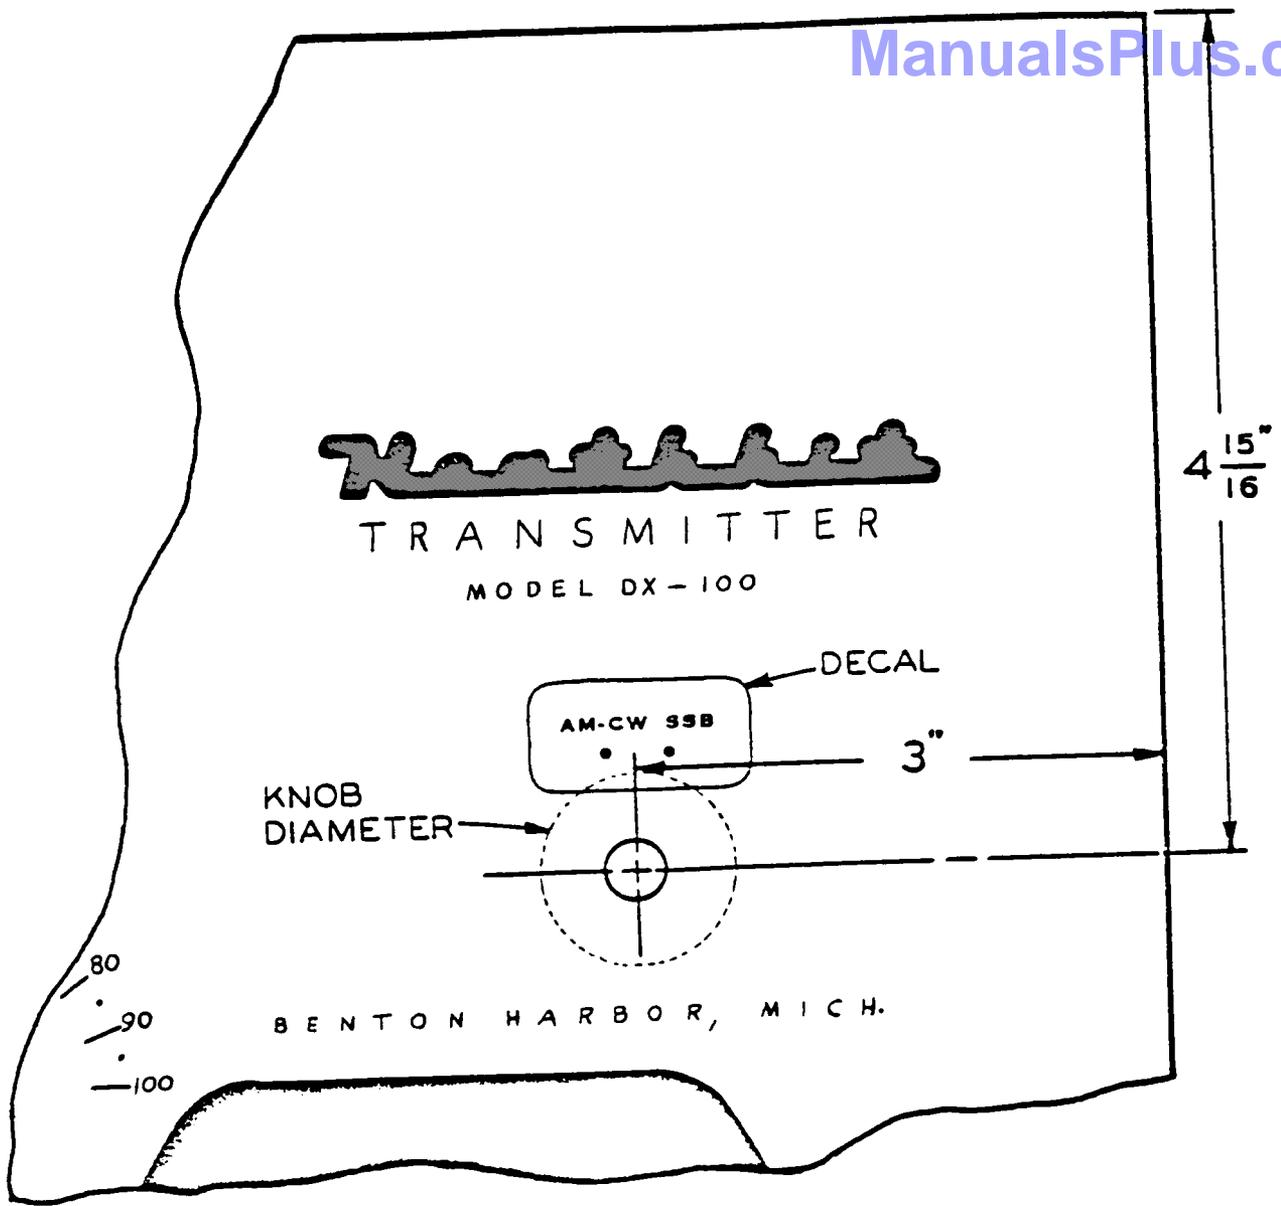

Figure 1
- () Referring to Figure 1, drill a 3/8" diameter hole in the front panel at the location indicated. If the transmitter has previously been modified for gridblock keying per Heath instructions, then drill this hole at a convenient location near the pushbutton switch already installed at this point. Be sure to allow enough distance between the two switches for clearance behind the panel. Drill a 1/4" hole first and use either successively larger drills, a taper reamer, or a rat-tail file to enlarge this pilot hole to 3/8" diameter. Be careful not to damage this filter capacitor directly behind the panel.